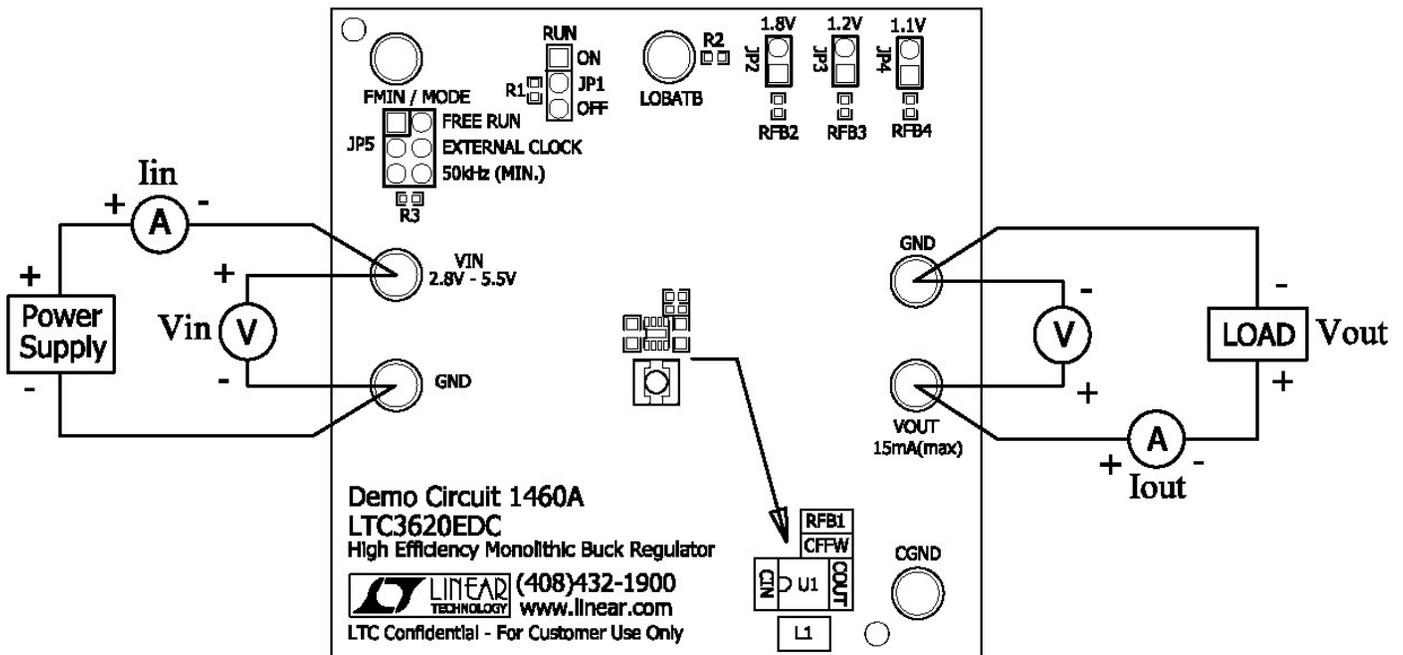

Figure 2. Equipment Setup to Test LTC3620EDC
The DC1460A is easy to set up to evaluate the performance of the LTC3620EDC. For a proper measurement equipment configuration, set up the circuit according to the diagram in Figure 2.
1. Connect the input power supply to the VIN and GND terminals. Connect the load between the VOUT and GND terminals. Refer to Figure 2 for the proper measurement equipment setup.